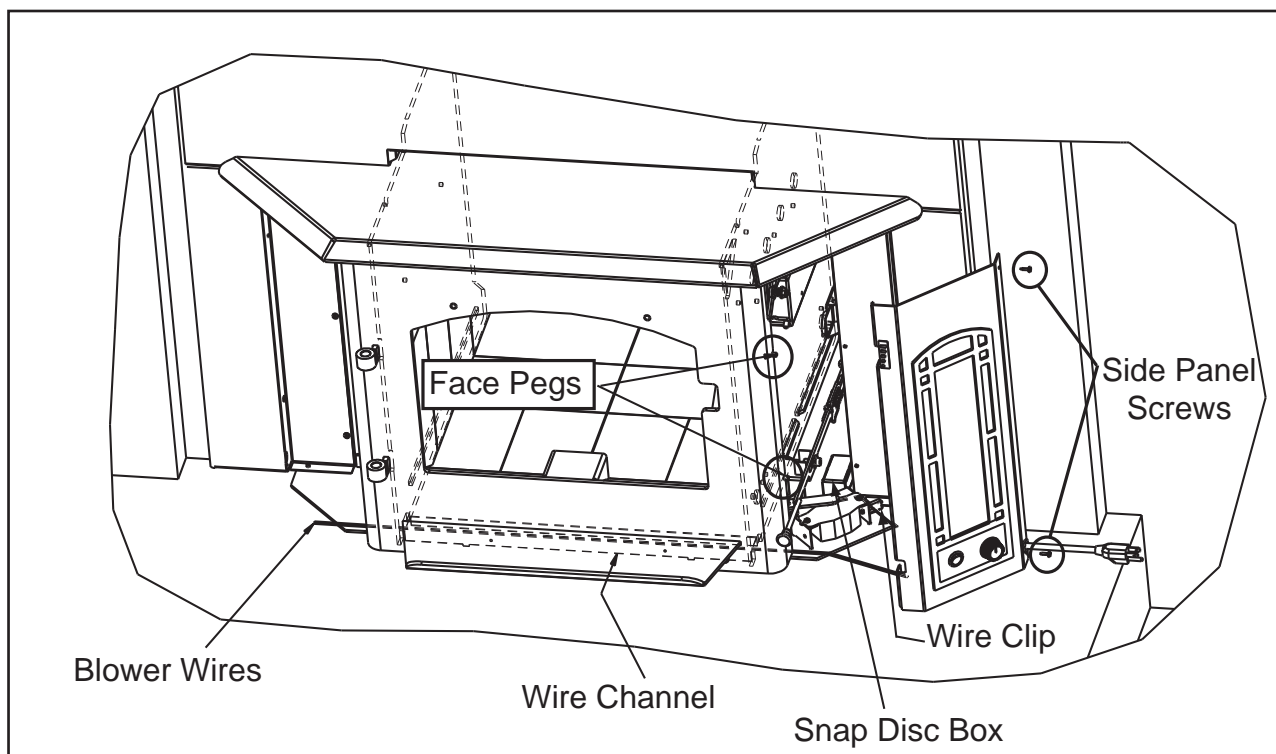

Figure 42.1
1. Place snap disc box in location shown in **Figure 42.1**.